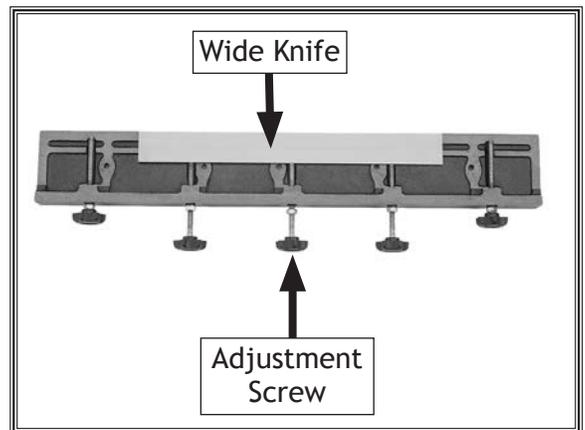

Figure 14. Wide knife placed on slide bar even with front edge.
- Loosen jam nuts of adjustment screws on slide bar, then use knobs to back adjustment screws out enough so knife can be positioned in middle of slide bar and even with its front edge, as shown in Figure 14.